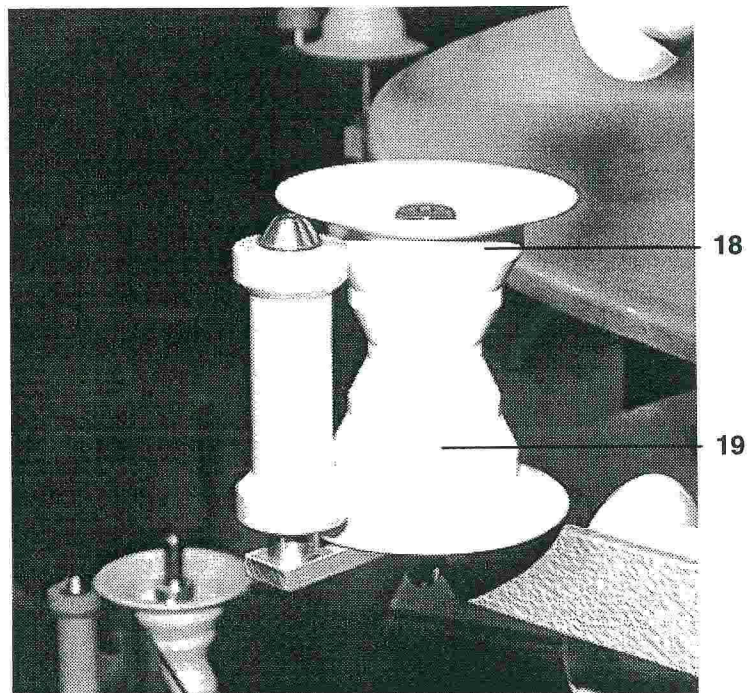

Figure 7-4
- The parts in the list are positioned with a number. You will find these numbers in figures 7-4, 7-6 and 7-9.